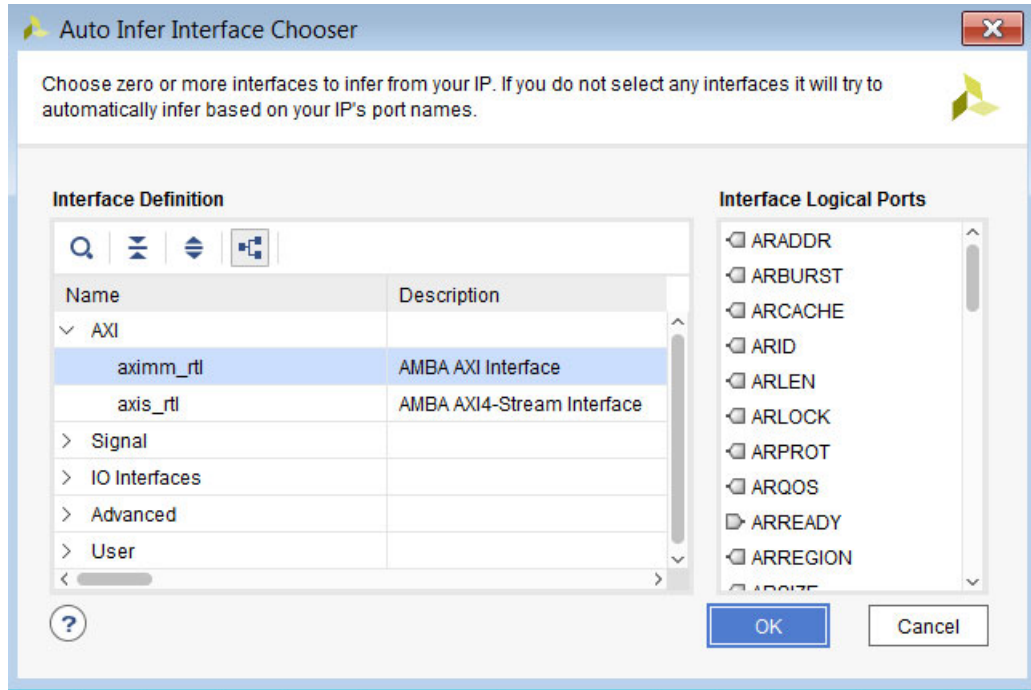

Figure 4-24: Auto Infer Interface Chooser
3. In the Auto Infer Interface Chooser dialog box, shown in Figure 4-24, select the interface to infer, then click **OK**.